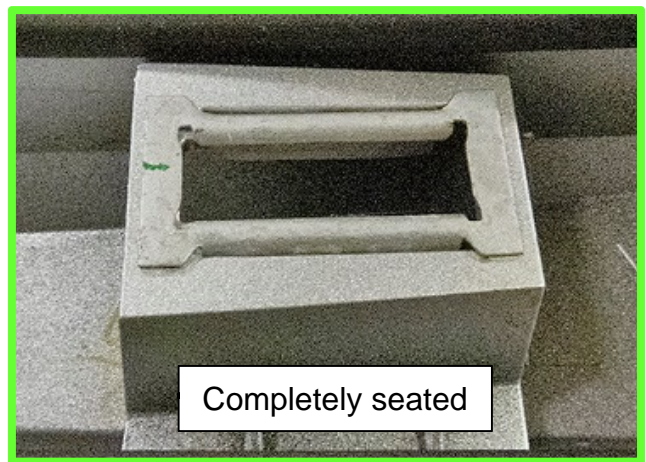

Figure 6
5. Inspect the remaining roof rail clips still attached to the roof rail, and confirm that they are completely seated, as shown in Figure 6. Seat the roof rail clips as needed.